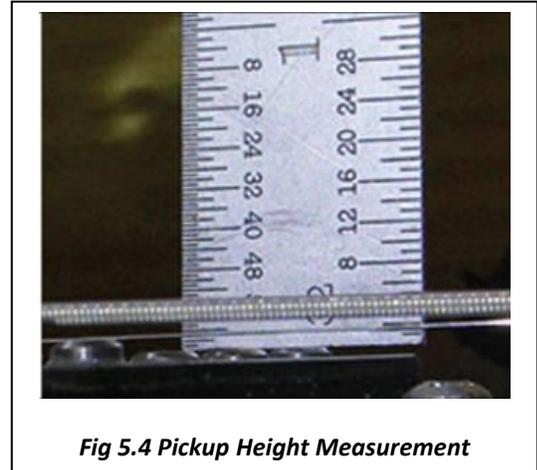

Fig 5.4 Pickup Height Measurement
5.4 Pickup Height (Figure 5.4) ..... - 4 -
### 5.4 Pickup Height (Figure 5.4)